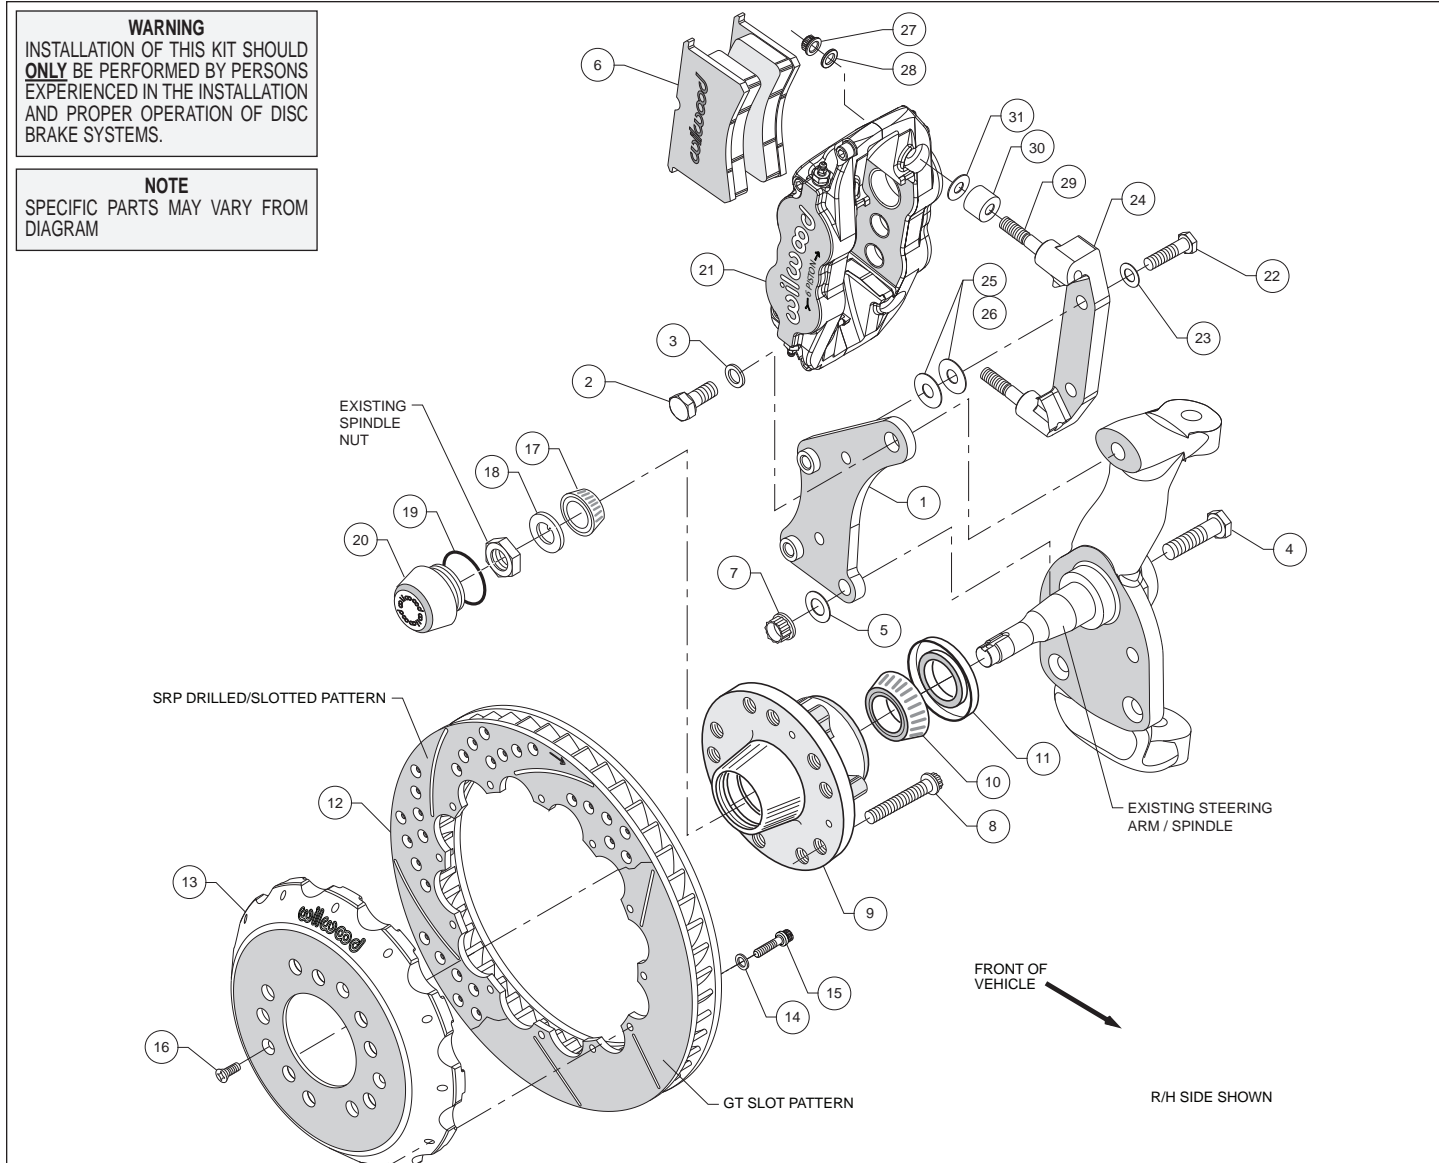

Figure 1. Typical Installation Configuration
- Mount the radial mount caliper bracket (24) to the first "flat" caliper mounting bracket (1) from the far side by sliding bolt (22) through washer (23). Place two .030 thick flat washers (26) between the two brackets (1 and 24) before sliding the mounting bolts (22) all the way into the first caliper mounting bracket (1). Finger tight only.
- NOTE:** This kit contains distinct right and left hand calipers that must be mounted in a specific direction, as described below. Lubricate caliper mounting studs (29) and nuts (27) with lightweight oil. Install spacer (30) and one shim (31) over each stud (29) on the radial mount bracket (24). Slide the caliper (21) in place over the studs and rotors and install the washer (28) and lock nut (27) to hold the caliper in place, Figure 1. Ensure that the caliper is mounted so that the largest pistons are at the rotor exit end of the caliper, in relation to the direction of rotor rotation. Snug the lock nuts (27) and check that the rotor (12) is centered in the caliper (21). Add or subtract .030" shims (26), or add additional .015" shims (25), as necessary between the radial mount bracket (24) and the flat bracket (1) to center the caliper. Finger tighten and recheck alignment. Use as many shim washers (combination of 25 and 26) as necessary to achieve the correct alignment. Apply red *Loctite*® 271 to bolt threads (22) and torque to 60 ft-lb.